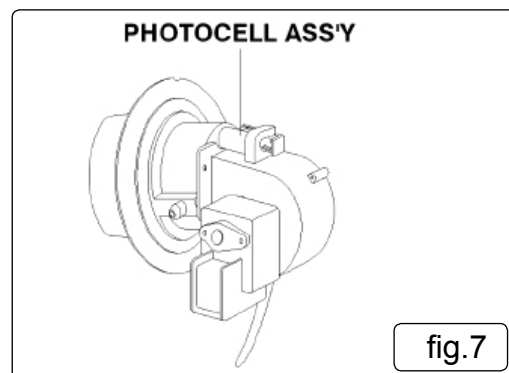

fig.7
6.5.3. The photocell should be cleaned at least once per heating season or more depending on conditions, use a cotton swab and water or, alcohol to clean the lens of the photocell. Be certain to reinstall the photocell in proper position as shown below fig.7.